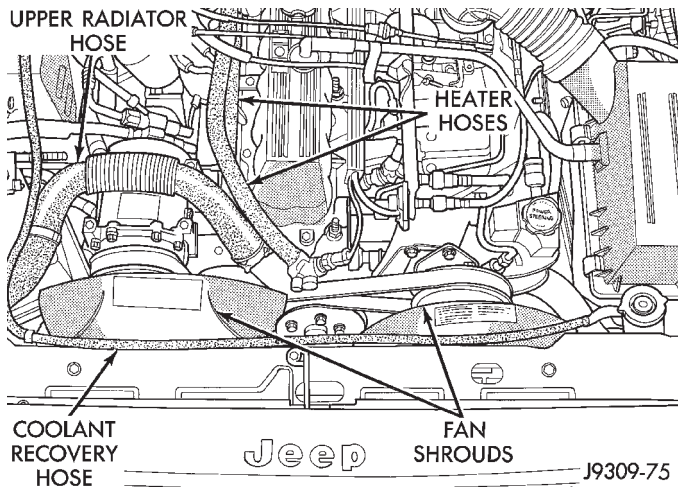

Fig. 13 Upper Radiator Hose, Coolant Recovery Hose, Fan Shroud & Heater hoses
(3) Remove the radiator drain cock and radiator cap to drain the coolant. DO NOT waste usable coolant. If the solution is clean, drain the coolant into a clean container for reuse.
(4) Remove the lower radiator hose.
(5) Remove the upper radiator hose and coolant recovery hose (Fig. 13).
- (6) Remove upper radiator support retaining bolts and remove radiator support.
- (7) Remove the fan shroud (Fig. 13) and electric cooling fan.
- (8) Disconnect the transmission fluid cooler tubing (automatic transmission).
- (9) Disconnect radiator fan switch wire connector.
- (10) **Vehicles with Air Conditioning:**
- (11) Remove the radiator or radiator and condenser (if equipped with A/C).
- (12) Remove the fan assembly from the idler pulley.
- (13) Disconnect the heater hoses at the engine thermostat housing and water pump (Figs. 13 and 14).